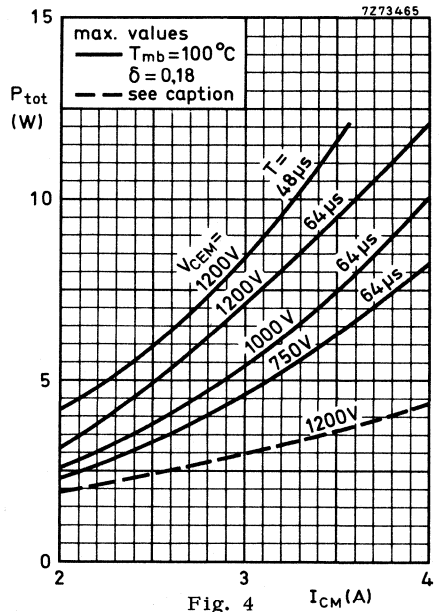

Fig. 4
- Fig. 4. Total dissipation of a limit-case transistor under maximum operating conditions for 625 and 819 lines ($T_{mb} = 100 \text{ }^\circ\text{C}$). The dashed line gives the total dissipation of a typical transistor under nominal conditions ($T_{mb} = 50 \text{ }^\circ\text{C}$).